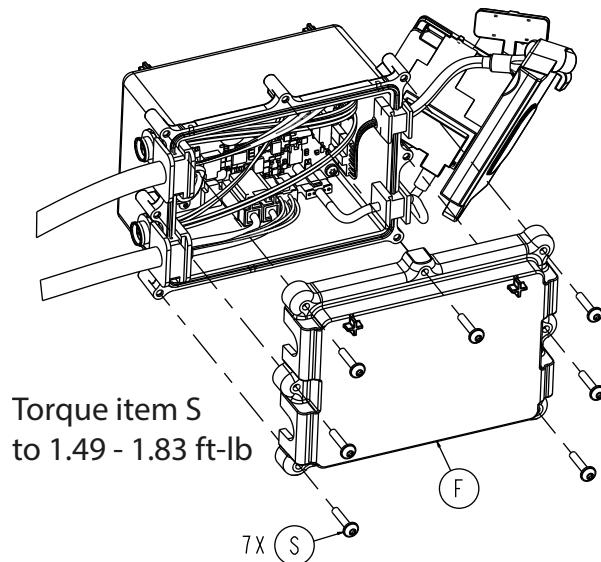

Figure 104 – Remove the HBC top cover screws
27. Using a T20 Torx driver, remove the seven round washer head tapping screws (S) that secure the top cover (F) to the HBC enclosure assembly (Figure 104). Remove and save the top cover. Save the screws.